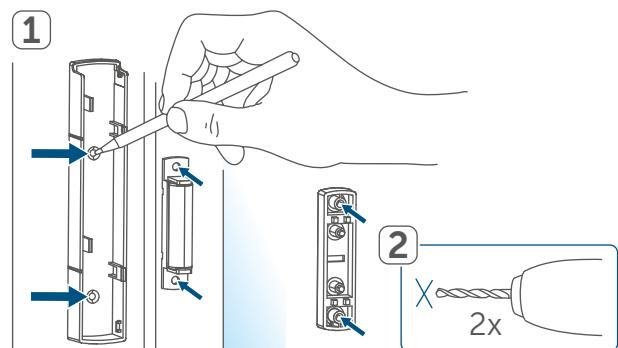

Figure 9
- Detach the bracket (A) from the electronic unit (B) by sliding it downwards and removing it to the rear (*→see figure*).
- Insert two new 1.5 V LR03/micro/AAA batteries into the battery compartment (F), making sure that you insert them the right way round (see figure 9).